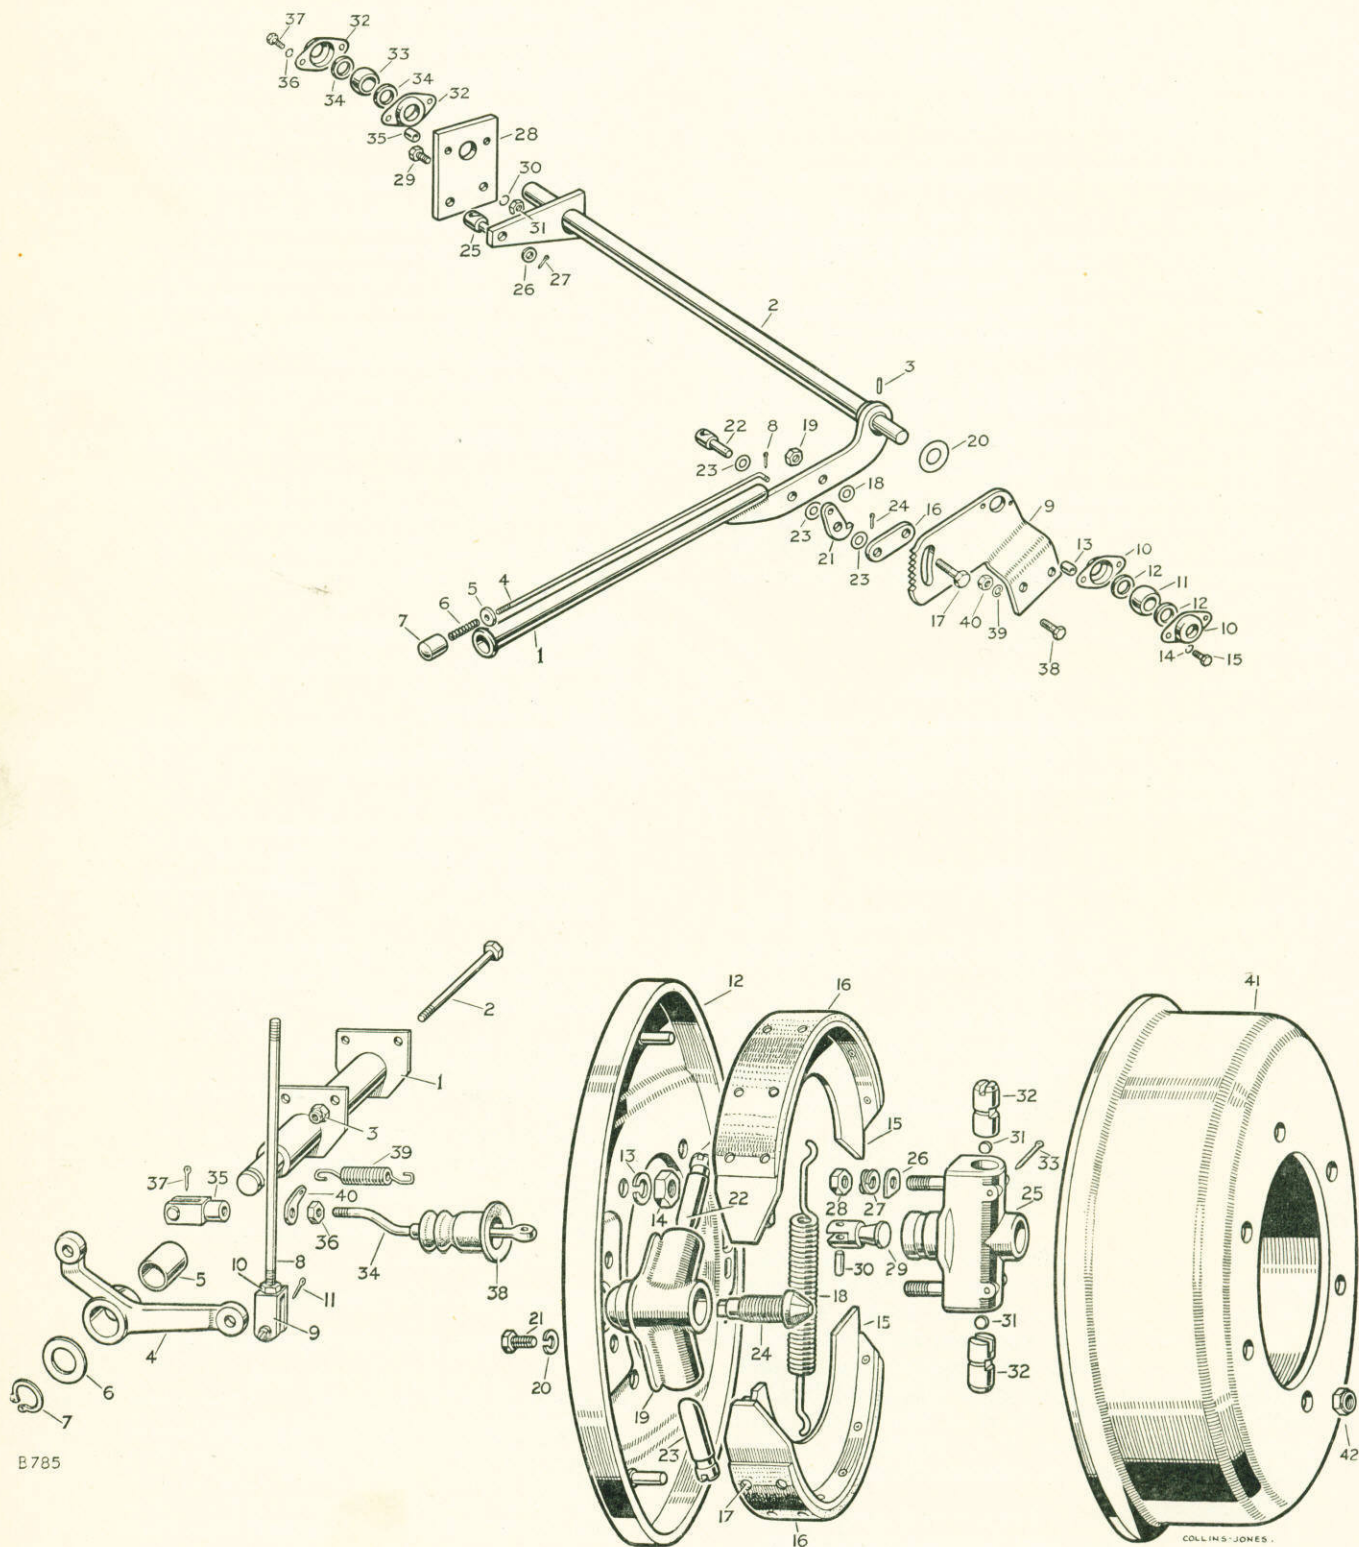

Fig. H-6—Layout of transmission brake.
7. Reconnect the bias reducing spring, renewing it if necessary; the brake shoes should be fitted together at the wheel cylinder end first (Fig. H-6).
Key to Fig. H-6